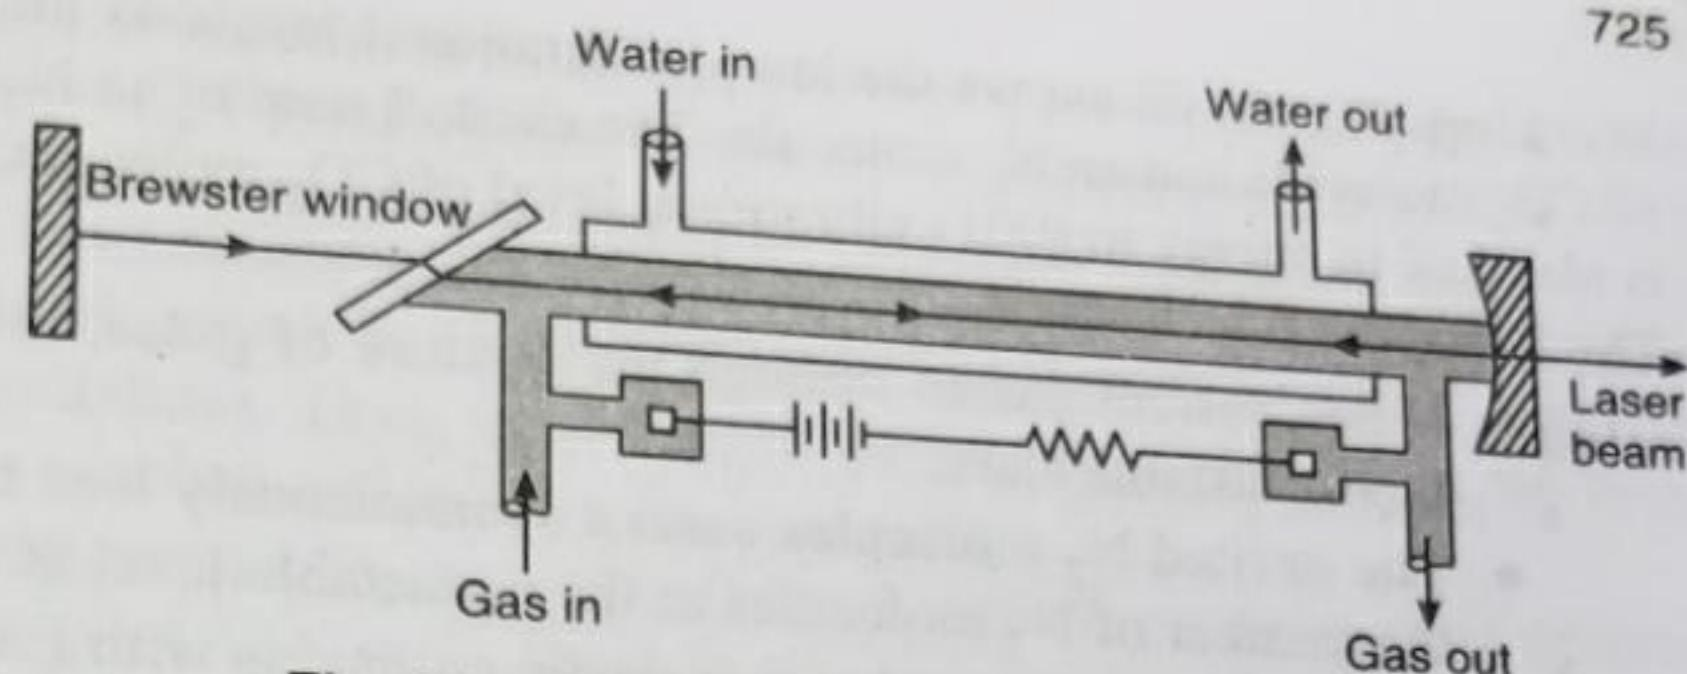

Fig. 24.21. Schematic of a carbon dioxide laser
**Construction:** The schematic of typical CO2 laser is shown in Fig. 24.21. It is basically a discharge tube having a bore of cross section of about 1.5 mm2 and a length of about 260 mm. The discharge tube is filled with a mixture of carbon dioxide, nitrogen and helium gases in 1:4:5 proportions respectively. Other additives such as water vapour are also added. The active centres are CO2 molecules lasing on the transitions between the vibrational levels of the electronic ground state.